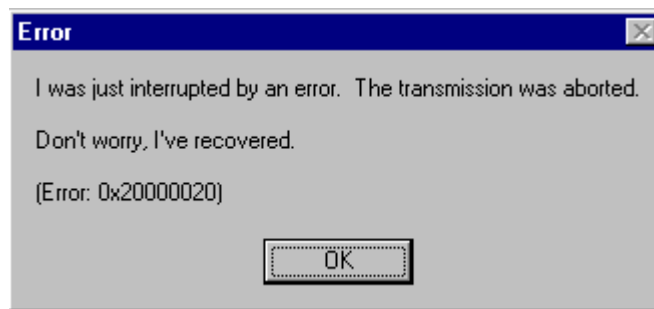

Figure 1-13 Transfer Not Successful Message
15. Figure 1-13 shows the error message that is displayed if the file does not transfer correctly. To clear the message, press <Enter> or click **OK**.